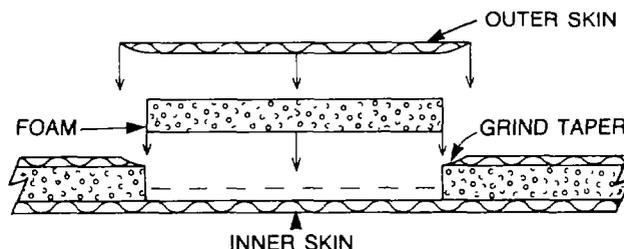

Figure 11 — Structural Damage to Outer Fibreglass Skin and Foam Core
- b. Inspect the foam for damage, if crushing of the foam has occurred, use a suitable knife to cut a neat square or rectangle, then cut a piece of foam to size, apply a mixture of resin and talcum powder to the new foam and insert in the opening (refer to Fig. 11). Apply pressure to remove air pockets